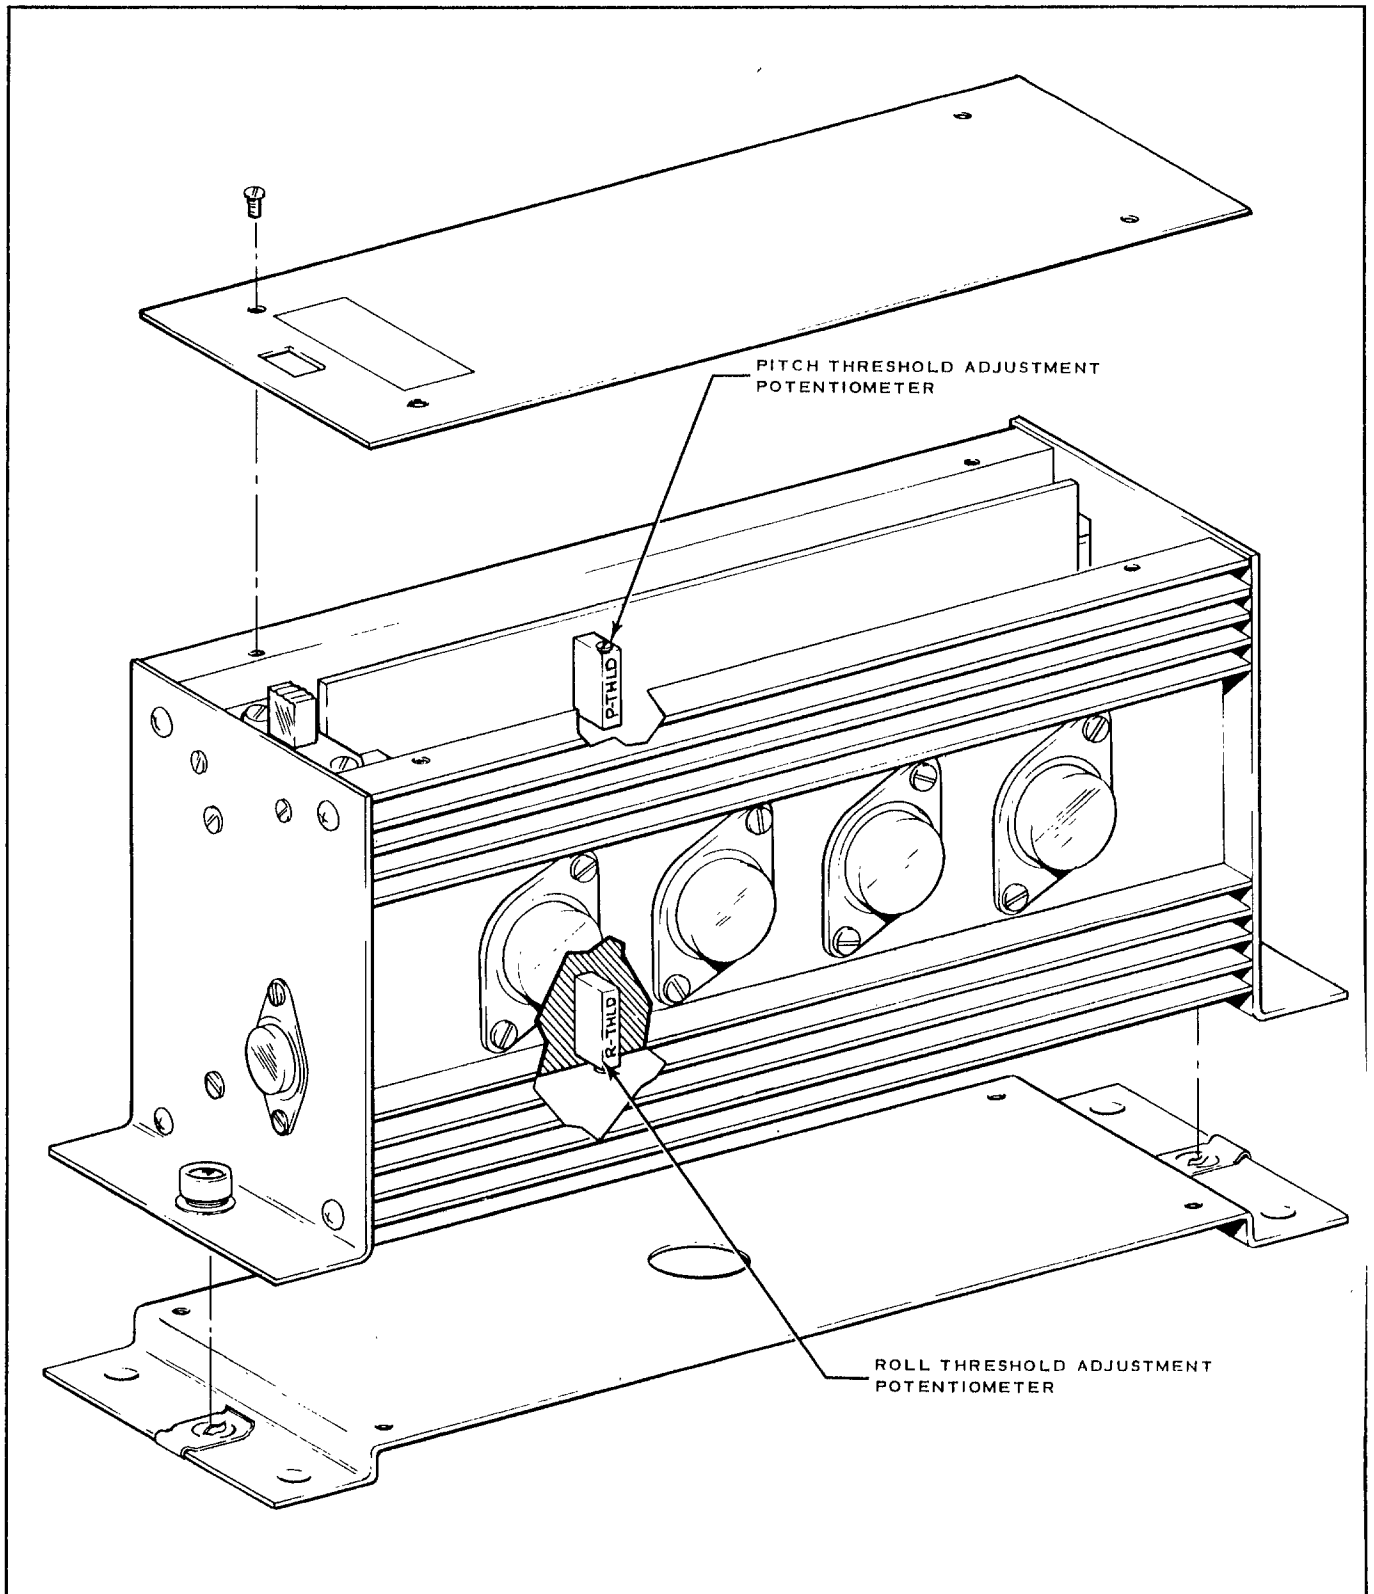

Figure 5-2. AltiMatic IIC, 1C515-1/1C515-3 Amplifier
Remove the base plate from the bottom of the amplifier to gain access to the roll threshold adjustment potentiometer. (Refer to Figure 5-2.)
13. Rotate the LARGE VERNIER CONTROL KNOB on Gyro Substitute Test Box, COUNTERCLOCKWISE for a one (1) degree left bank.
15. If voltage setting is correct proceed to next step. If voltage setting is incorrect find the Roll Threshold Adjustment Potentiometer, located on the lower section of the amplifier printed circuit board (refer to Figure 5-2), and adjust to obtain an average of the voltage settings listed in Table V-I by repeating Steps 11 thru 14.
Remove the cover plate from the top of the amplifier to gain access to the Pitch Threshold Adjustment Potentiometer. (Refer to Figure 5-2.)
16. If voltage setting is correct proceed to next step. If voltage setting is incorrect find the Pitch Threshold Adjustment Potentiometer, located on upper section of amplifier printed circuit board, (refer to Figure 5-2) and adjust to obtain an average of the voltage setting listed in Table V-II by repeating Steps 12 thru 15.